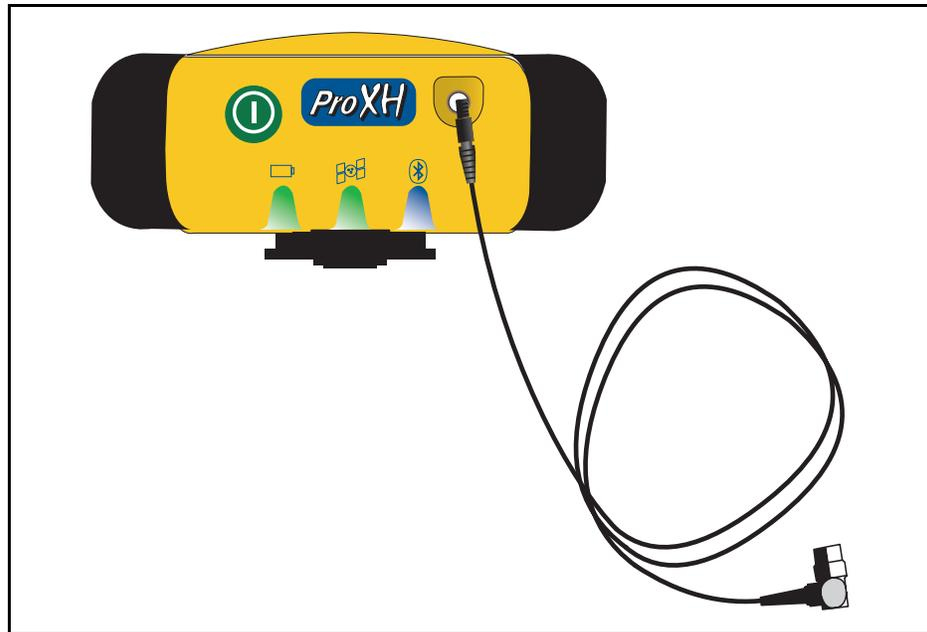

Figure 1.10 Attaching the external antenna
3. Attach the Zephyr antenna to the top of the pole and then connect the antenna cable to the antenna and the receiver, see Figure 1.10.